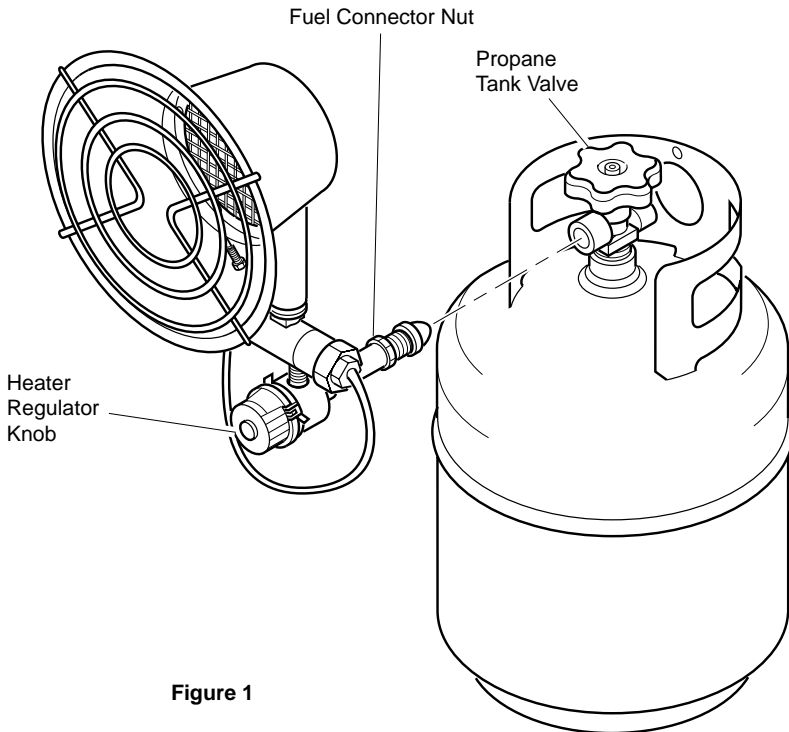

Figure 1
3. Wrench tighten the fuel connector nut into the propane tank valve (see Figure 1). Turn fuel connector nut counterclockwise to tighten. Threads are left-handed. **WARNING: Attach heater in upright position as shown in Figure 1. Never attach heater in a horizontal position. This could lead to dangerous flare-ups or fire.**